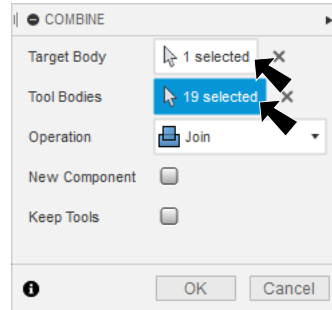

Fig. 18
Step 3. In the Combine panel set, **Fig. 18**